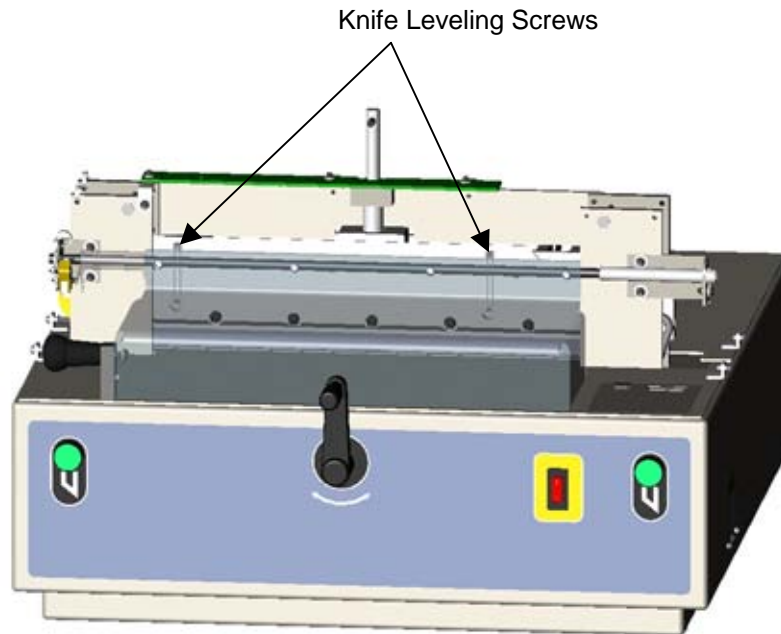

Figure 11
6. Slightly loosen the remaining (5) knife screws, keeping them somewhat snug.
7. Adjust the knife leveling screw (Figure 11) that corresponds with the side of the knife which does not cut all the way through. Tug on the paper while adjusting and stop when the bottom sheet is cut all the way through.